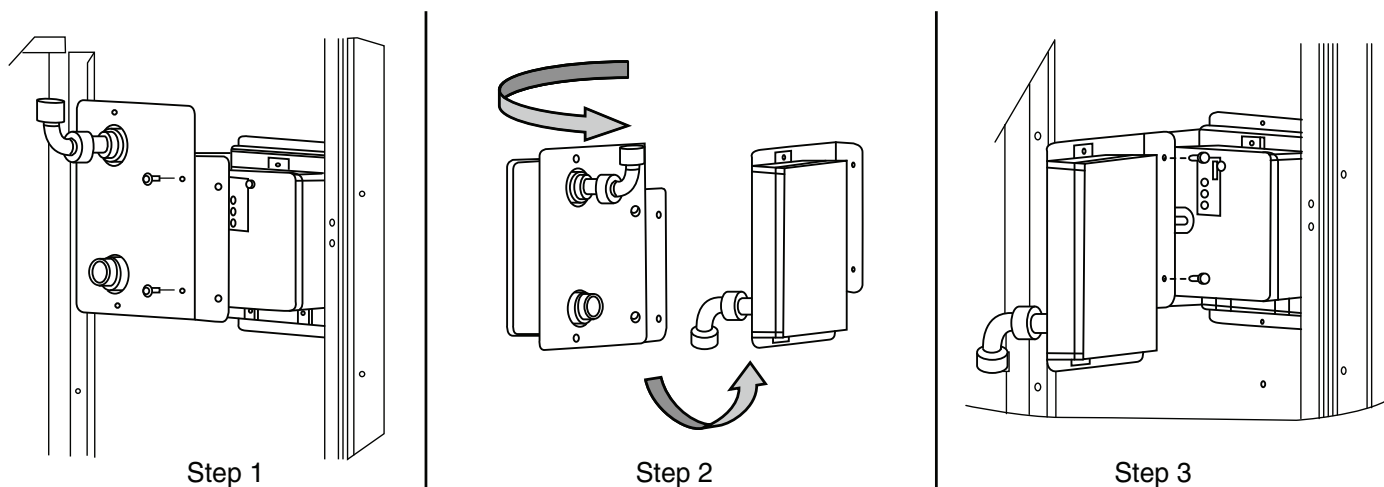

Fig. 49 — Completing Installation of Return Air Smoke Sensor
1. Unscrew the two screws holding the Return Air Smoke Detector assembly. See Fig. 49, Step 1. Save the screws.
2. Turn the assembly 90 degrees and then rotate end to end. Make sure that the elbow fitting is pointing down. See Fig. 49, Step 2.
3. Screw the sensor and detector plate into its operating position using screws from Step 1. See Fig. 49, Step 3.